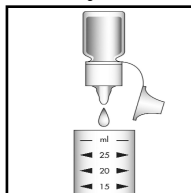

Figure 2
2. Add 6 drops of A-2700 Neutralizer Solution (fig. 2). Stir to mix the contents of the cup.